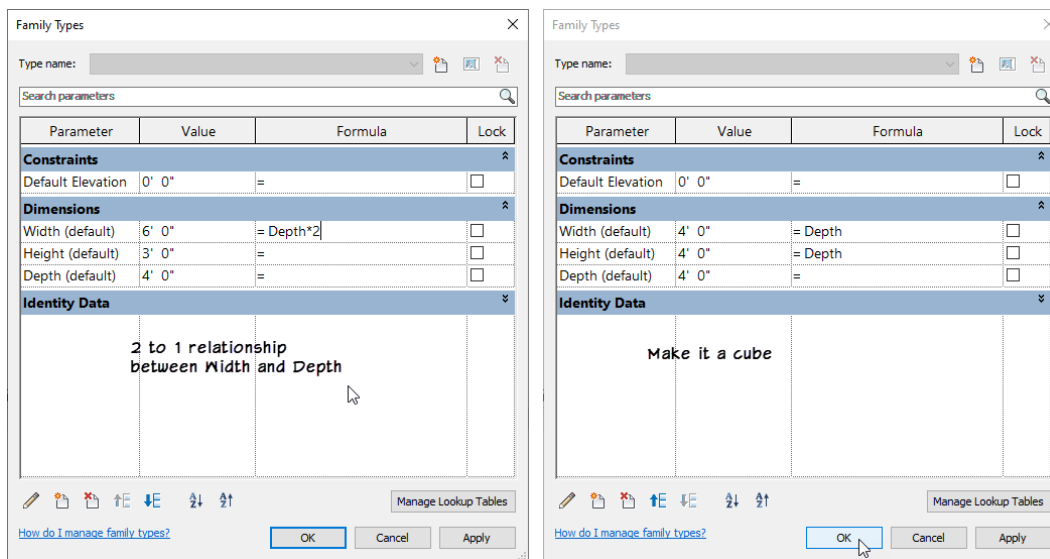

Figure 43
3. In the “Family Types” dialog, in the Formula column next to Width, type: **Depth * 2** (Formulas are case sensitive, so be sure to type: **Depth** and not: **depth** – see Figure 43).